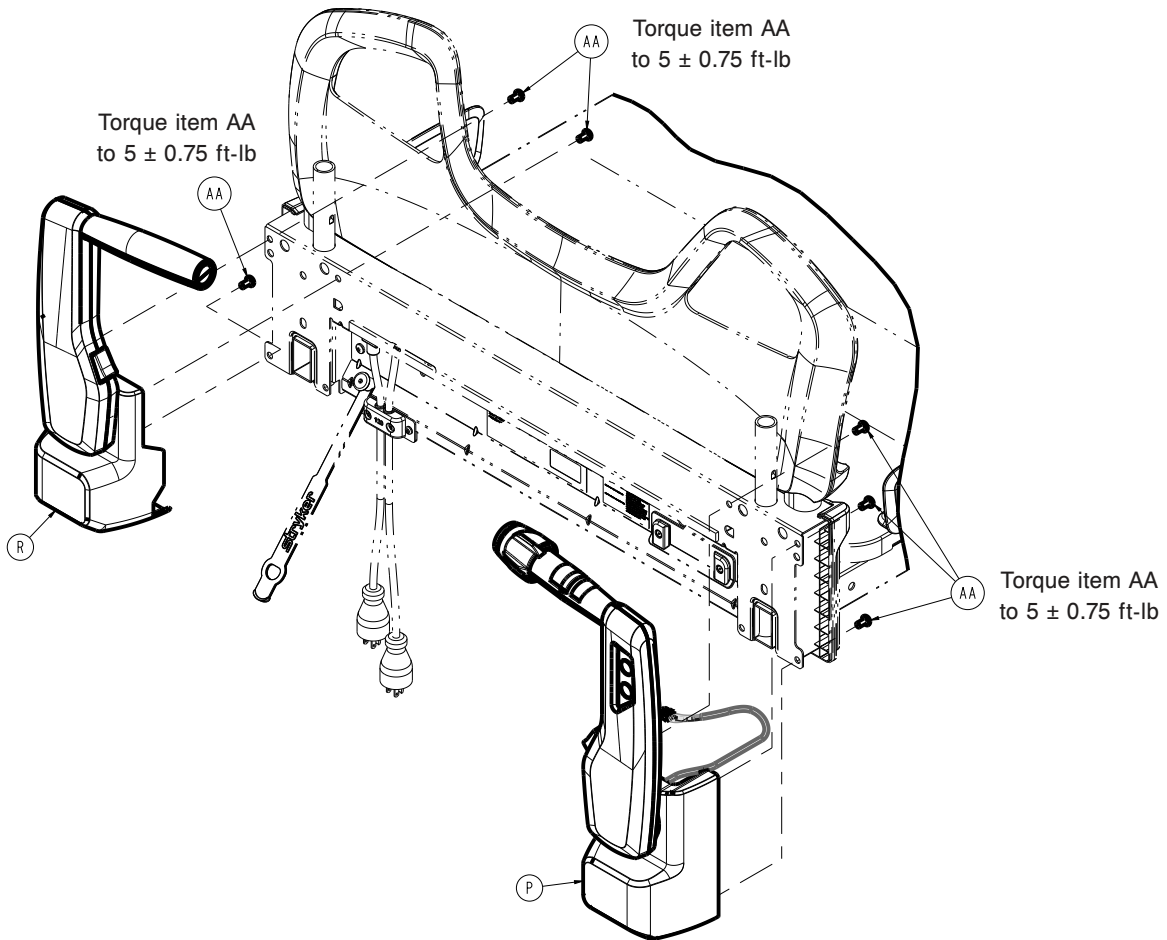

Figure 71 – Removing the Zoom handle assembly
11. Using a T25 Torx driver, remove the three screws (AA) that secure the **Zoom** drive handle assembly (P) to the head end litter weldment and remove the **Zoom** drive handle assembly (P) (Figure 71). Save the screws.
8. Using a T25 Torx driver, remove the three screws (AA) that secure the **Zoom** push handle assembly (R) to the head end litter weldment and remove the **Zoom** push handle assembly (R) (Figure 71). Save the screws.